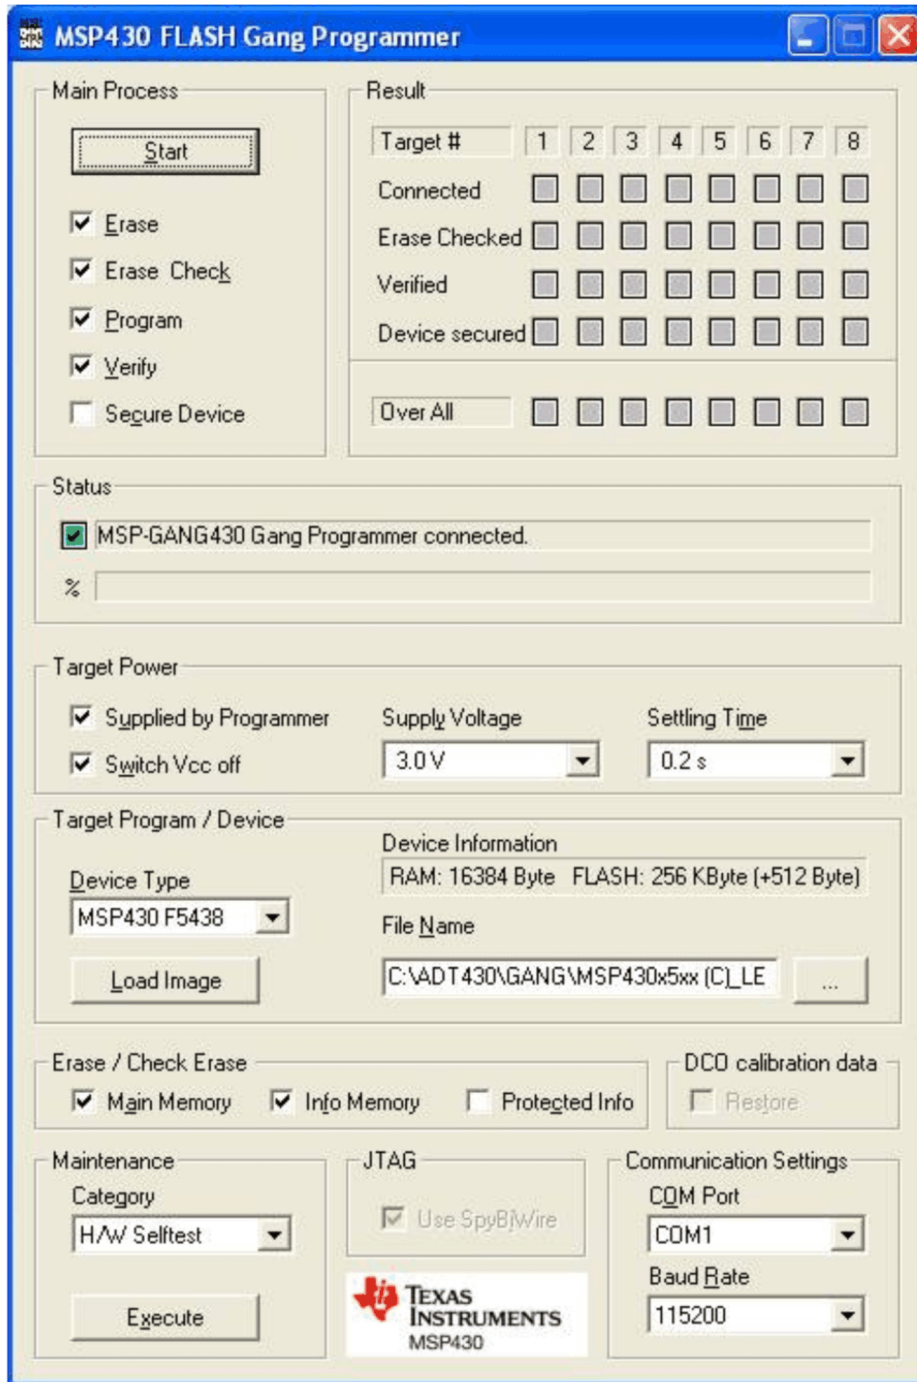

Figure 2-1. MSP-GANG430 GUI
2. Click on the GANG430 icon located in the program group specified during installation of the software (the default group is ADT430). The MSP430 FLASH Gang Programmer GUI is displayed on the screen (see Figure 2-1).